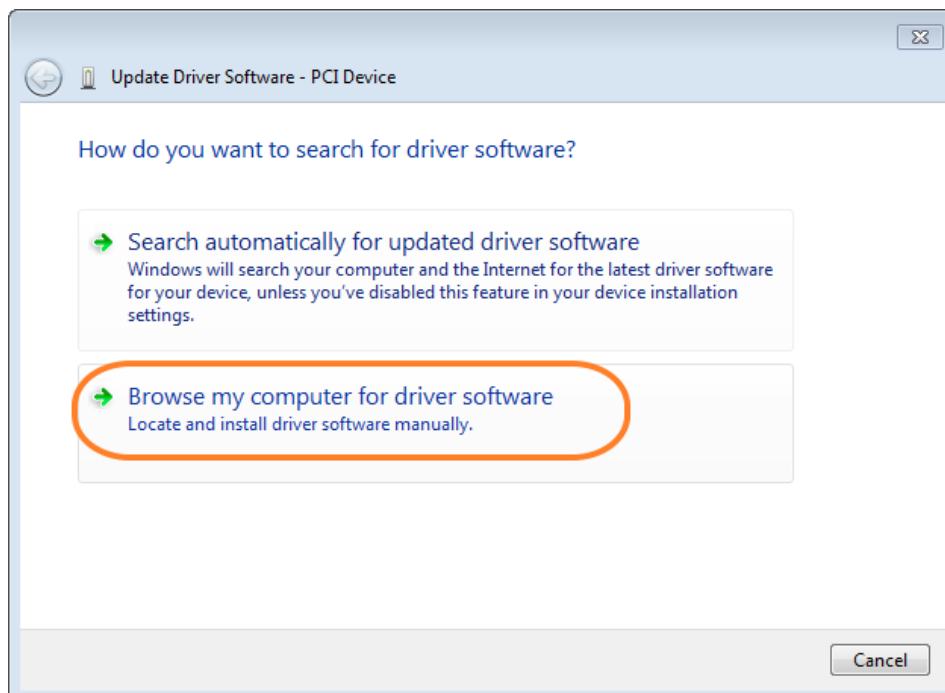

Figure 7-4 Dialog of Browse my computer for driver software
6. In the **How do you want to search for driver software** dialog, click **Browse my computer for the driver software** item, as shown in Figure 7-4 .